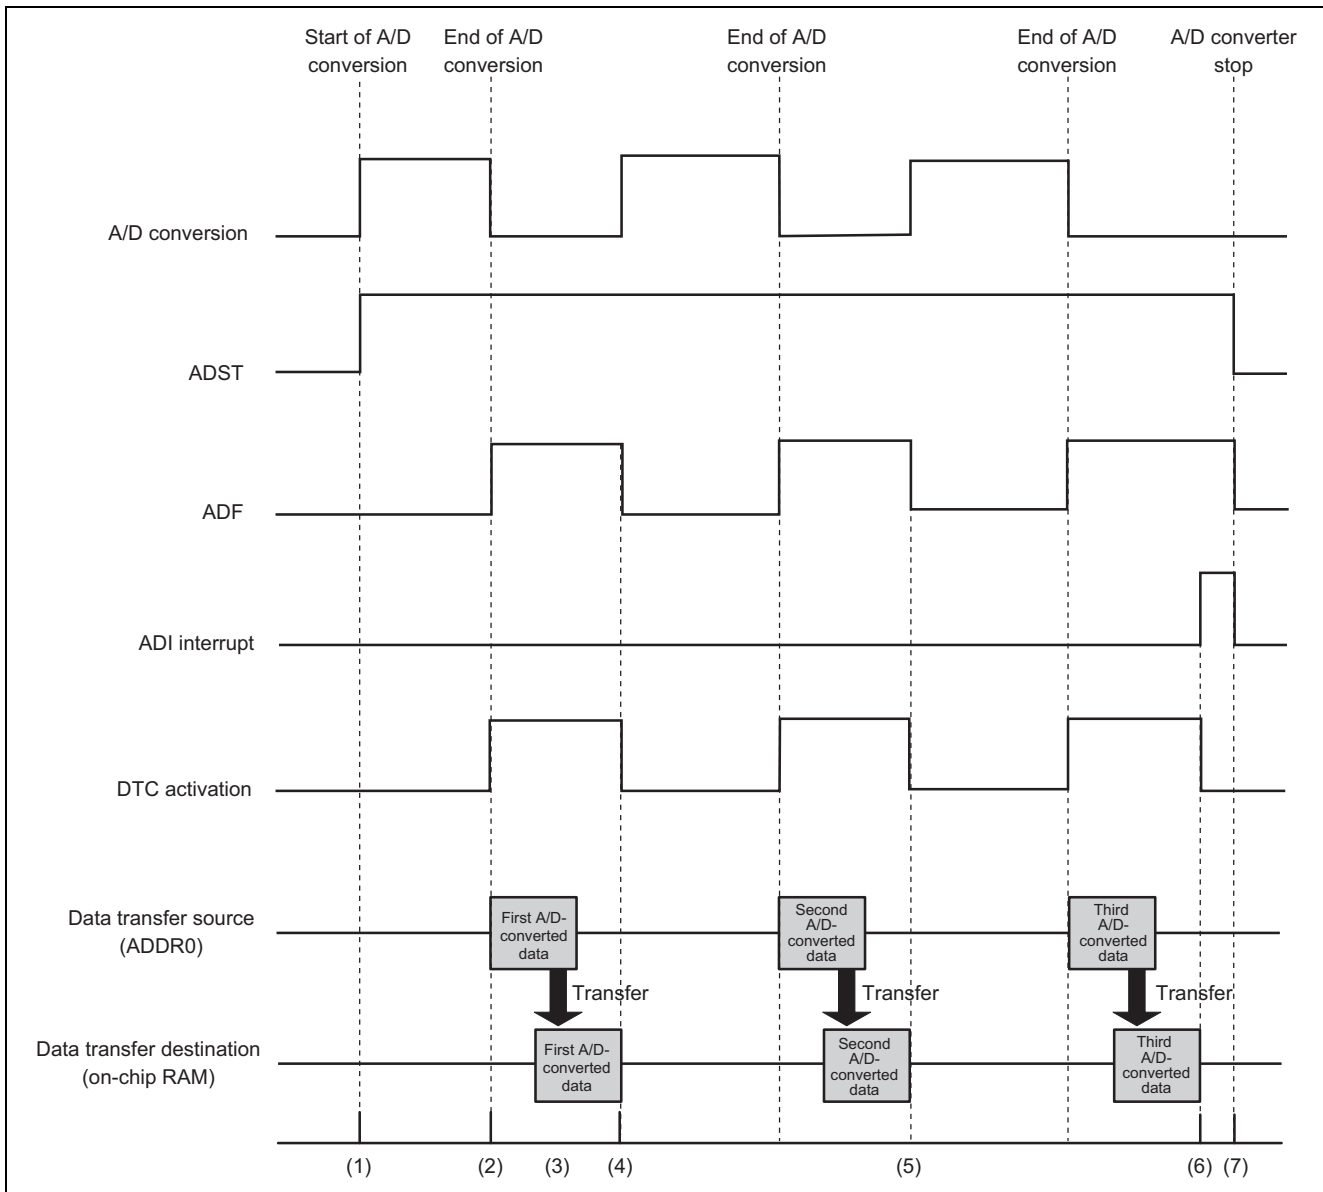

Figure 4 Timing of A/D Conversion and DTC Transfer
Figure 4 is a timing diagram for A/D conversion, DTC activation and data transfer. The processes are shown in table 3.
Firstly, the ADI interrupt is enabled, and then the ADST bit is set to 1 to start A/D conversion (figure 4, (1)). When the ADF bit is set to 1 automatically at the end of the A/D conversion, an ADI interrupt request is generated and the DTC is activated (figure 4, (2)). Even if an ADI interrupt request is generated, no interrupt occurs if the DTC is activated. Then, the DTC transfers A/D-converted data in ADDR0 to the previously reserved area in RAM (figure 4, (3)). When the data transfer ends, the ADF bit is automatically cleared (figure 4, (4)). The A/D conversion in this sample application is performed in continuous scan mode. Therefore, the ADST bit is not automatically cleared. The A/D conversion and DTC transfer are repeated twice without the ADST bit being manipulated (figure 4, (5)). When the last (third) DTC transfer ends and the ADF bit is set to 1, the DTCE bit is cleared automatically, thereby causing an ADI interrupt (figure 4, (6)). In the processing routine for this interrupt, the ADST bit is cleared to stop the A/D converter (figure 4, (7)).